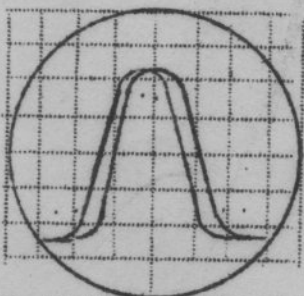

FIG. 7 PHASE DISTORTION
21. **PHASE DISTORTION:** It is quite probable in the alignment of most receivers a certain amount of opening up of the two traces as illustrated in Fig. 7 will be present. A normal amount of this phase distortion should not be considered detrimental to the proper operation of the receiver, however, if the opening up of these traces gets as much as $1/4$ or $3/8$ of an inch it would be well to check the coupling capacitors and by-pass condensers for possibilities of being open.